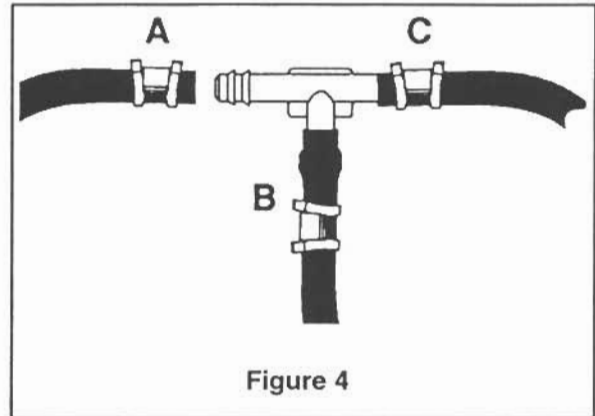

Figure 4
- D. Push the air line over one side of the "T" until all the barbs are covered. Repeat procedure for other leg of "T" (fig.4).
- E. With pliers, slide the hose clamp forward until it fully covers the barbed section. Repeat for other leg of "T" (fig.4).